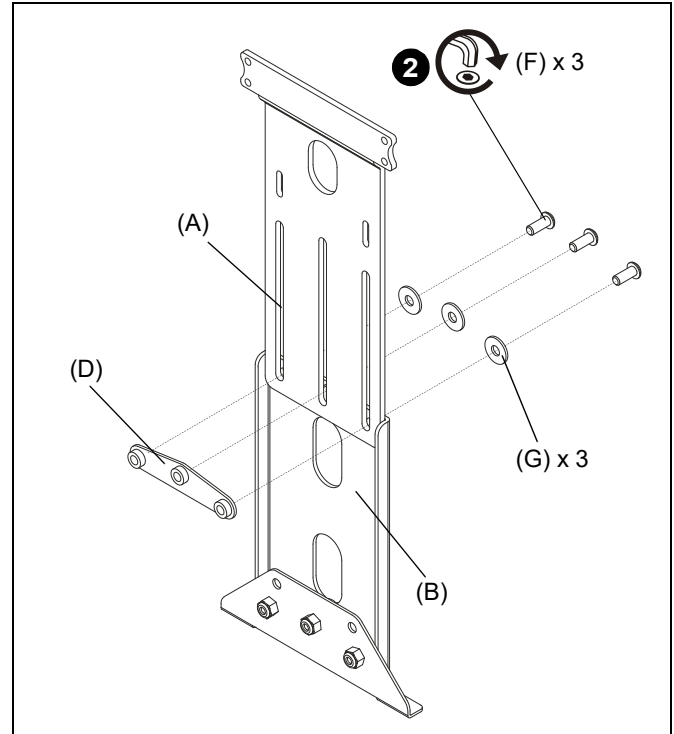

Figure 2
2. If using extension bracket, use three 1/4-20 x 5/8" button head cap screws (F) and three 1/4" washers (G) to attach extension bracket (B) to hanging bracket (A). (See Figure 2)